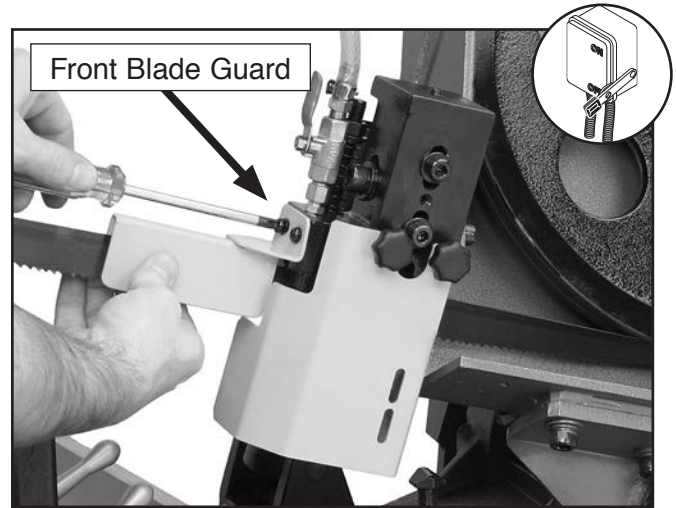

Figure 41. Removing front blade guard.
4. Remove the blade guard and wire wheel from the front of the bandsaw as shown in **Figure 41**.